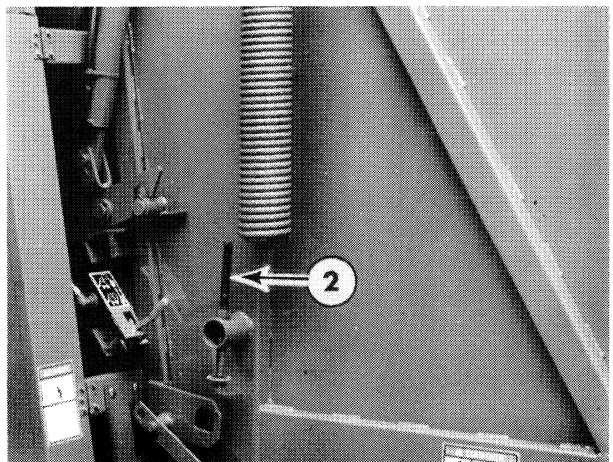

Figure 7-31
1. Loosen and remove the spring tension bolt at 2, Figure 7-31.